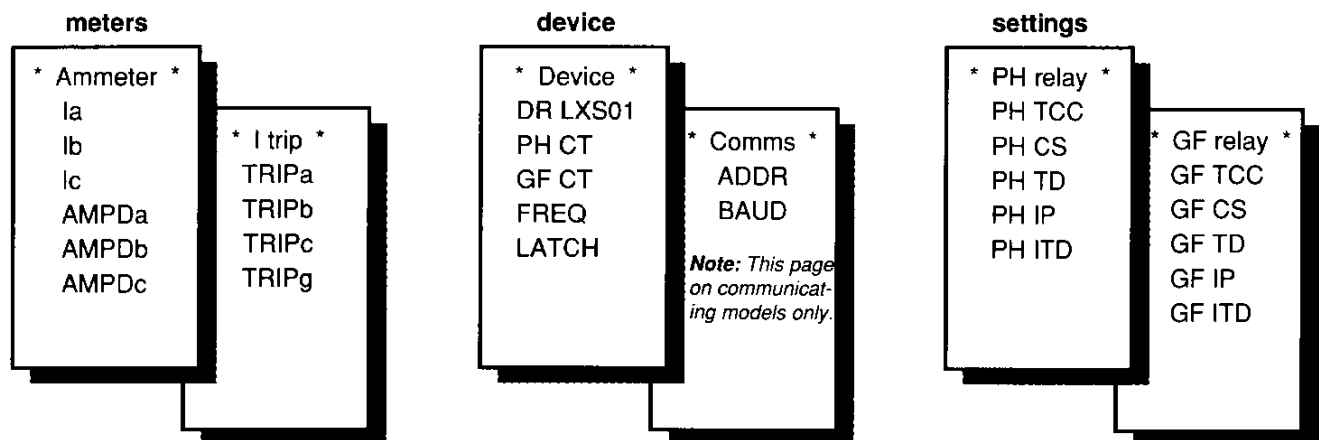

Figure 37: Pages available on digital relay
The digital relay settings and metered values can be viewed by pressing (individually) the *meters*, *device*, and *settings* buttons. The readings and settings are arranged in loops, as shown in figure 37. For definitions of the readings and settings shown, see **Glossary**, page 71.
Each loop is divided into pages. Each page has a title, indicated by an asterisk before and after (e.g., *"\* Ammeter \**"). See figure 37.
5. Repeat steps 2c–4 to set parameters for other *device* settings (refer to figure 37, page 34, for page menu structure). *Note: When repeating step 2c, a setting other than PH CT displays.*
10. Repeat steps 7b–9 to set parameters for other phase relay settings (refer to figure 37, page 34, for page menu structure). *Note: When repeating step 7, a setting other than PH TCC displays.*
14. Repeat steps 11b–13 to set parameters for other ground fault relay settings (refer to figure 37, page 34, for page menu structure). *Note: When repeating step 11b, a setting other than GF TCC is displayed.*